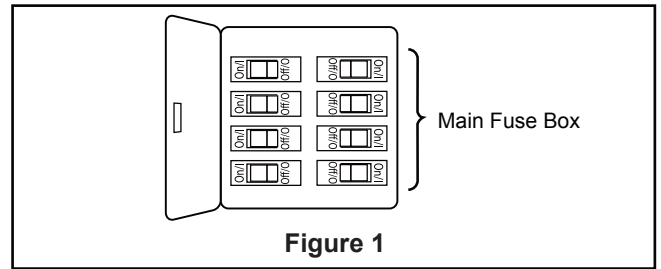

Figure 1
- 1. Prior to assembly, set aside and save the hardware bags included in the packaging. Remove the hanger ball by loosening the set screw in the hanger ball until the ball falls freely down the downrod. Remove the pin from the downrod, then remove the hanger ball. Retain the pin and hanger ball for reinstallation in Step 6. (Figure 1)
To avoid possible fire or shock, be sure electricity is turned off at the main fuse box before hanging. (Figure 1)